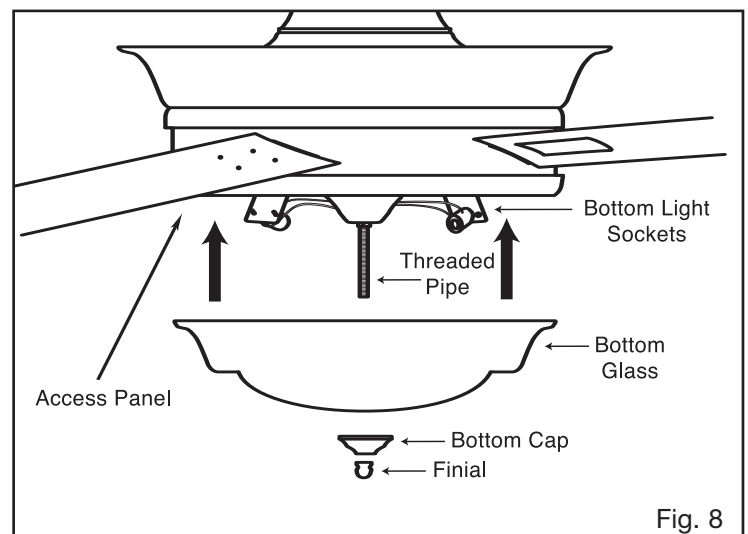

Fig. 8
1. Remove access panel on bottom of motor housing panel; panel has two screws holding panel on. Once removed blades can be installed in to motor. See Fig. 8
INSTALLING BOTTOM LIGHT AND GLASS (FIG. 8)